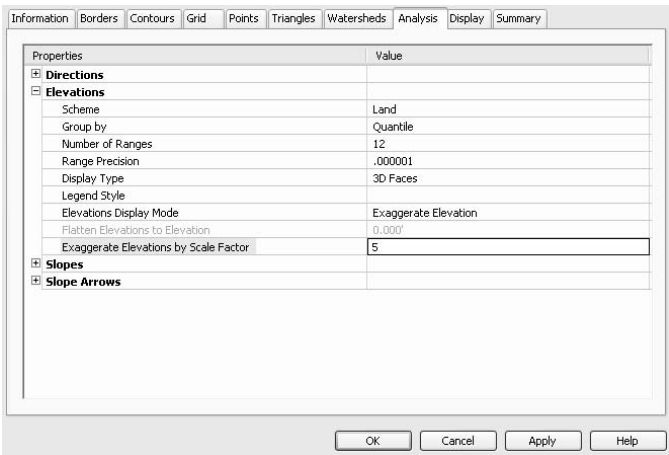

Figure 1.14
11. Change the Elevation Display Mode to **Exaggerate Elevation**, and then change the Exaggerate Elevations by Scale Factor to **5**. The Analysis dialog should now look like Figure 1.14.